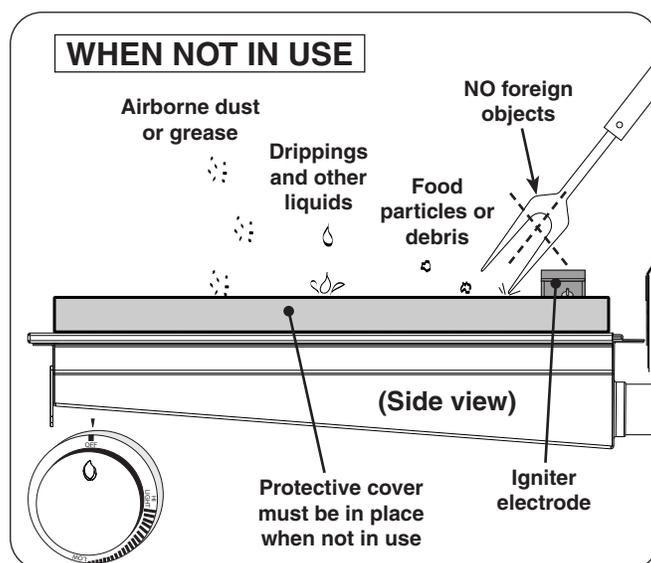

Fig. 34-2 Infrared burner - WHEN NOT IN USE
- When not in use, **always** cover the infrared burner with the stainless-steel cover. This protects the burner from drippings (from other cooking), water, airborne particles, and foreign objects (Fig. 34-2).
- Do not strike or scrape the ceramic portion of the burner as it may chip, crack, or break (Fig. 34-2).